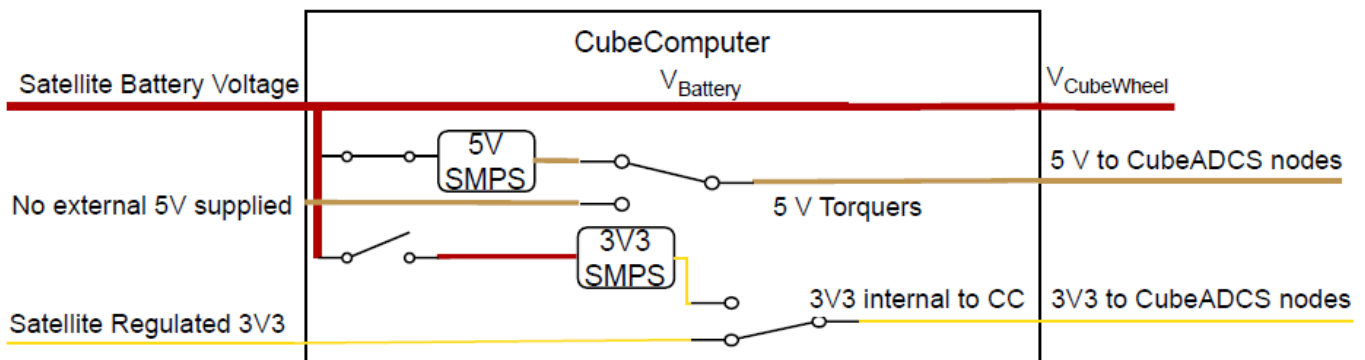

Figure 8: CubeADCS Battery Voltage and Regulated 3V3 Input
- A third option is to supply battery voltage and regulated 3.3V only. This might be an attractive option to the user which can control the 3.3V line from the EPS. This will allow the user to power down CubeADCS by turning off the 3.3V rail from the EPS. This is shown in Figure 8. Note an Enable line is also available to perform this task (see Section 3.7.2)